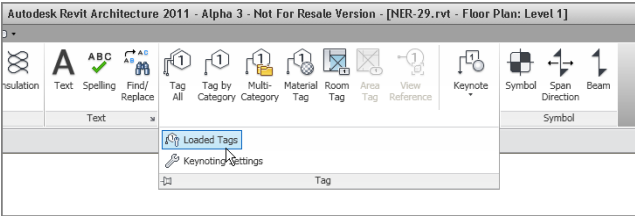

FIGURE 11.65: Click Loaded Tags.
- 10. On the Architecture tab in the title bar of the Tag panel is a pull-down arrow. Click the Loaded Tags button (see Figure 11.65).